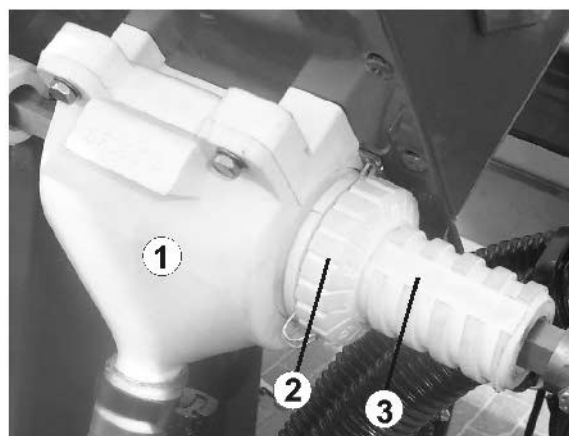

Fig. 43
The metering unit (Fig. 43/1) consists of
- an adjustable shutter slide which meters the application rate in relation to the diameter of the opening. For setting the individual metering quantities the setting wheel (Fig. 43/2) is turned into the required position..